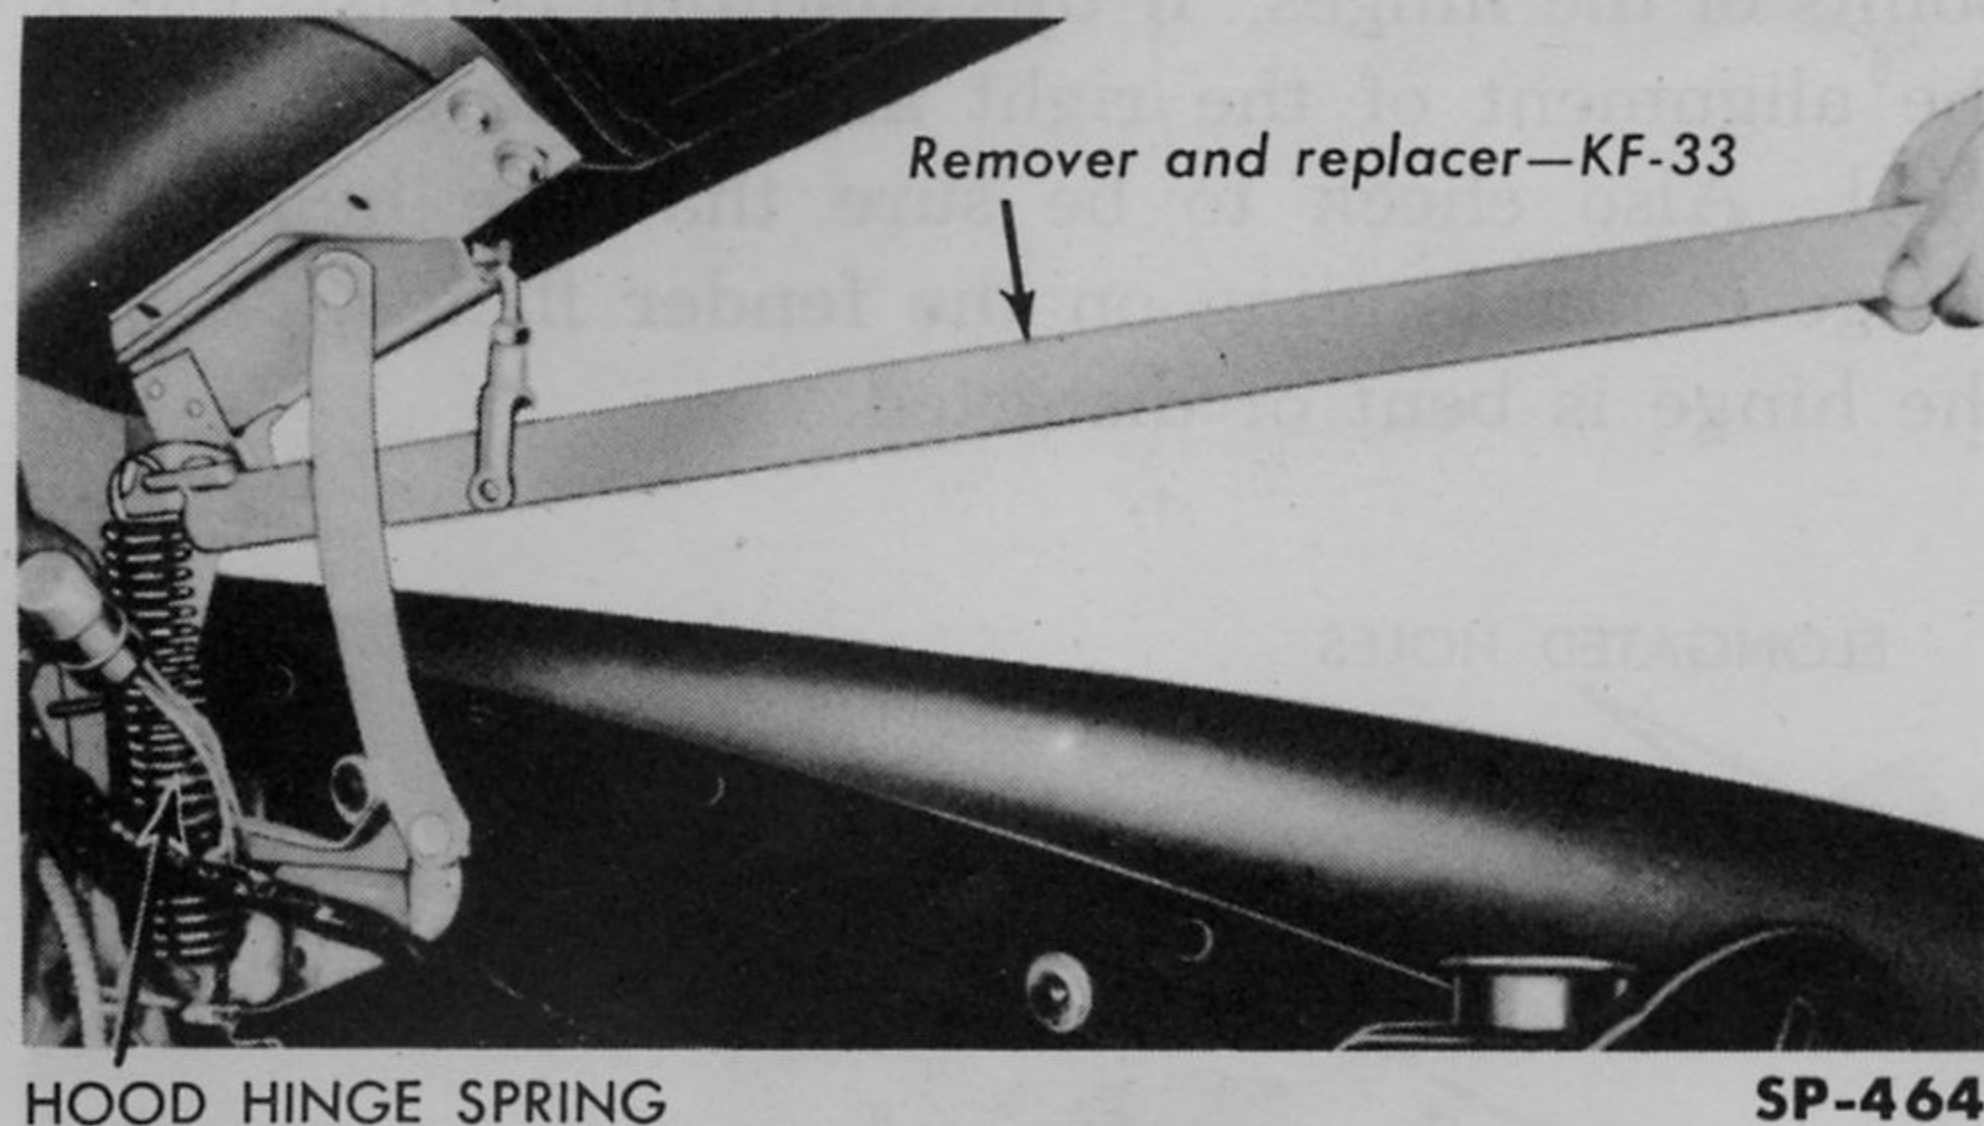

Fig. 337—Removing Hood Hinge Spring—Frazer
**2. Hood Hinge Replacement—Frazer.** Hood hinges are easily replaced, after removing the hood as detailed under HOOD REPLACEMENT. When removing hinges the hinge spring must be unhooked using Hood Hinge Spring Remover and Replacer KF-33 (Fig. 337). Then remove the bolts which attach the hinge to the cowl brackets. The reverse procedure may be applied to install the hinges.